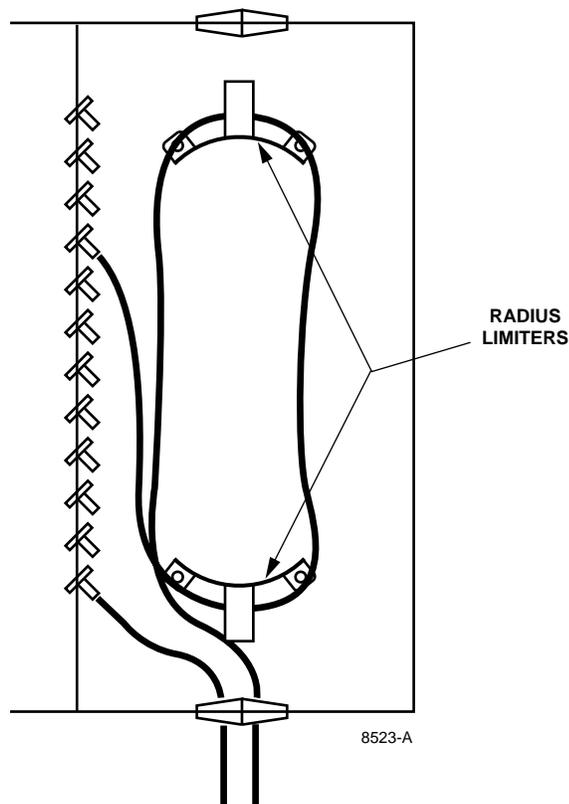

Figure 11. Patch Cord Routing in the Wall Box
3.04 After terminating a patch cord connector to an adapter in the wall box, route the patch cord either straight out the bottom of the wall box, or route it in a counterclockwise direction around the two radius limiters and then out the top or bottom of the wall box. Carefully remove most of the slack from the service loops as in **Figure 11**.